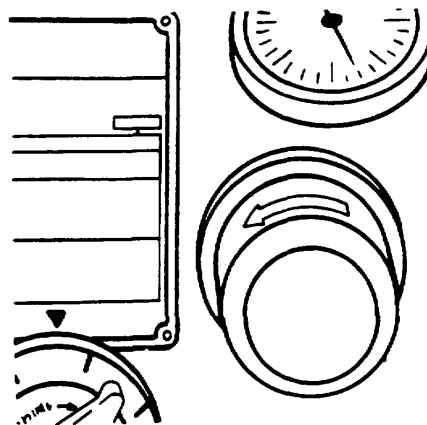

FIGURE 101
1. CHECK: Push HONE START button. Depress pedal; machine spindle should rotate counterclockwise, as indicated by arrow (Figure 101). (This check is usually required only on original installation or if motor has been replaced.)